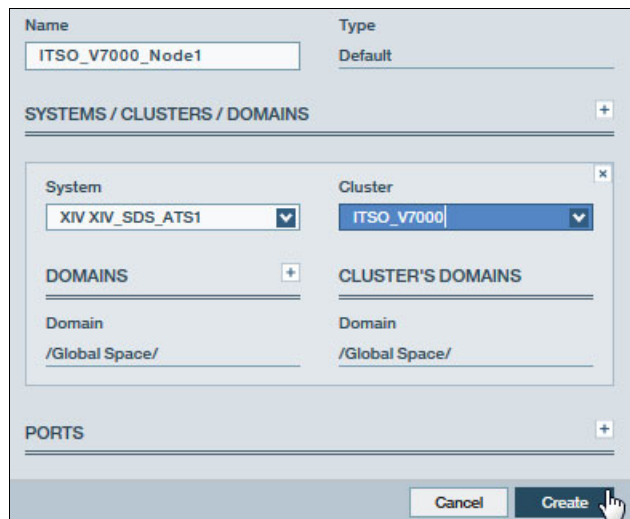

Figure 4-6 Adding Storwize V7000 nodes to the cluster
3. Click **NEW +** → **Host**, define the Storwize V7000 nodes that are mapped to the IBM Spectrum Accelerate system (as members of the Storwize V7000 cluster), and click **Create**, as shown in Figure 4-6. You can instead run the command that is shown in Example 4-4. By defining each node as a separate host, you can get more information about individual Storwize V7000 nodes from the performance statistics display. You might need to do this up to eight times, depending on how many nodes you have.